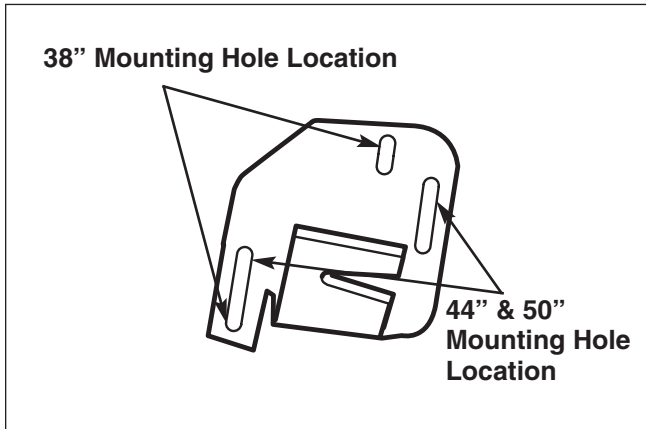
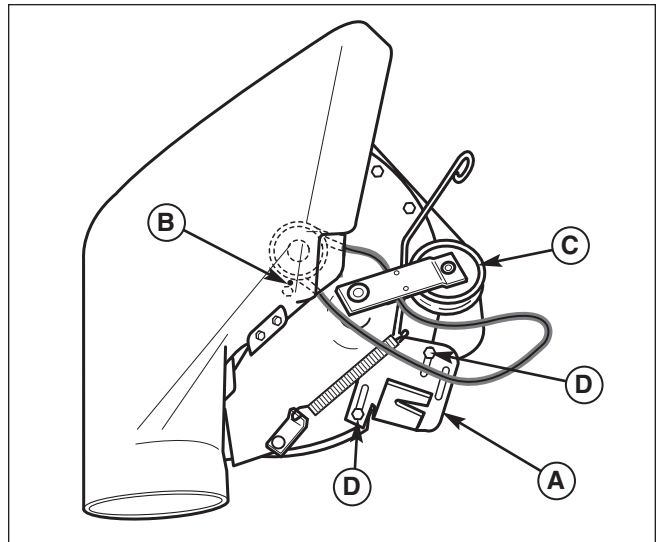

Figure 16. Mounting Latch Holes
Figure 17. Belt Routing - 38" Models
1. Select the correct belt for the mower deck used. See parts listing on page 6-7. Loosen the hardware securing the drive pulley belt guide (B, Figure 17 or 18) and the idler pulley (C).
2. Install the belt as shown in Figure 17 or 18.
3. Tighten the hardware securing the drive pulley belt guide (B, Figure 17 or 18) and the idler pulley (C) so the idler belt guide is within 1/16" (1.59mm) of the belt.
4. Remove and retain hardware (D, Figure 17 or 18). See Figure 16 for hole location. Install the mounting latch (A, Figure 17 or 18) reusing hardware (D). Latch may have to be repositioned later.